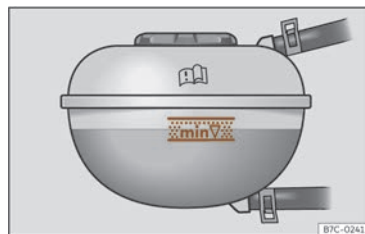

Fig. 201 In the front compartment: marking on coolant expansion tank.
- When the electric drive system is cold, check the coolant level using the side marking on the expansion tank >>> **Fig. 201**. The coolant level should be between the marks.
- The coolant level must be between the marks on the expansion tank >>> **Fig. 201**. **Never exceed the top edge of the marked area** >>> ⚠.
- When topping up the, do not fill over the upper edge of the marked area >>> Fig. 201. Otherwise, when the temperature rises the excess fluid will be expelled from the engine cooling system and could cause damage.